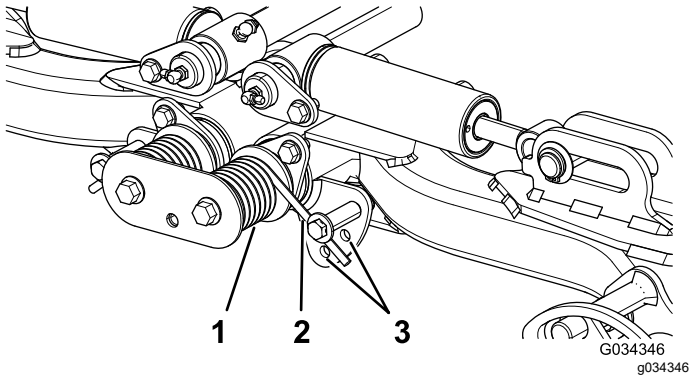

Figure 33
- Insert a tube or similar object onto the long spring end to relieve the spring tension during the adjustment (Figure 33).
- While relieving the spring tension, remove the bolt and locknut securing the spring actuator to the bracket (Figure 33).